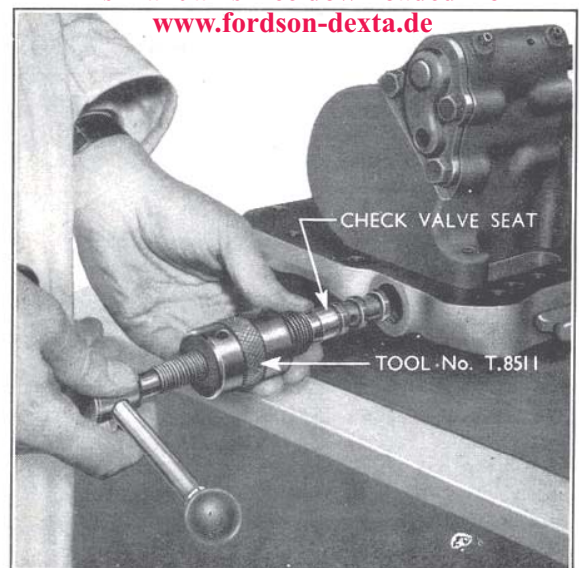

Fig. 18
2. Fit a new 'O' ring to the recess in the check valve seat and locate the seat on the pilot of Tool No. T.8511 (see Fig. 18). Enter the seat into the check valve passage and screw the body of the tool into the threaded outer end of the passage. Operate the centre screw of the tool and press the check valve seat into position.